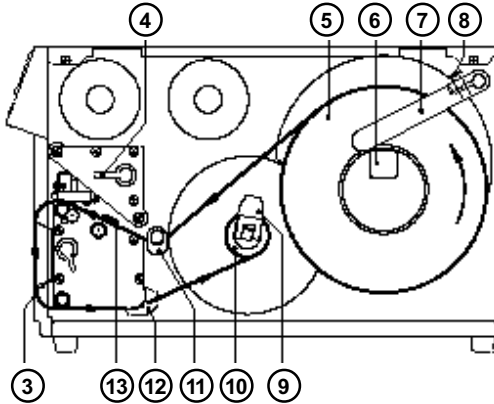

Fig. 13 I Inserting the labels
Fig. 13 b Mounting the printer adapter
Fig. 13 c Mounting the guide bar
Fig. 13 d Selecting the method of rewinding
Fig. 13 e Power supply module of the external rewinder
Fig. 13 f Rewinding directly onto the rewind axle
1. Attach the rewinder to the **Apollo** by positioning the metal posts on the bottom of the rewinder (5) into the holes of the adapter plate (4).
2. Feed the label strip over the guide bar and under the roller onto the rewinder axle (6) as shown in Figure 13 f.
3. Considering the required method of rewinding, secure the label strip appropriately to the rewinder axle (6) by sliding the clamp (7) over the label strip with the clamp set in the groove. (the broken line shows the path of inside rolled labels)
**Fig. 13 g Rewinding onto 3 in (75 mm) cardboard cores
1. Use a cardboard roll (5) which is about .04 in (1 mm) wider than the label strip.
2. Attach the rewinder to the **Apollo** by positioning the metal posts on the bottom of the rewinder (4) into the holes of the adapter plate (3).
3. Mount the first axle adapter (6) onto the rewinder axle (2) and slide it up to the disc (1). Tighten knurled screw (7).
4. Mount the second adapter onto the rewinder axle (2). Slide it towards the first adapter until the clearance between the edge of the adapter and the disc (1) is a little less than the width of the cardboard roll (5). Tighten knurled screw (7).
5. Slide the cardboard roll (5) over the two adapters (6) until it is touching the disc (1).
6. Feed the label strip over the guide bar and under the roller as shown in Figure 13 g up to the cardboard roll (5).
7. Using adhesive tape or a label, affix the end of the label strip to the cardboard roll (5). (the broken line shows the path of inside rolled labels)
8. Slide flange onto the rewind axle (2) until it stops at the cardboard. Tighten knurled screw.
Fig. 13 h Mechanical mounting of the cutter
Fig. 13 i Electrical connection of the cutter
Fig. 13 k Mounting the rewind guide plate
5. Unroll a length of stock from the media roll and feed along as shown in Figure 13 I.
Fig. 13 m Mounting of the present sensor
Fig. 13 n Inserting the labels for peel-off
1. Lift the printhead by turning the lever (7) clockwise until it stops.
2. Loosen the knurled screw (11) and swing media retainer (10) upwards.
3. Place the media roll (8) onto the media hub (9). Swing the media retainer (10) downwards and inwards until it rests against the side of the roll. Tighten the knurled screw (11).
5. Unroll a length of media stock and feed it through the **Apollo** as shown in Figure 13 n. It is particularly important to ensure that the media strip slides properly between the adjustable fittings of the photocell assembly (16).
6. Feed the media strip between the print roller and the thermal printhead, and then over the dispense edge (18) up to the internal rewriter (13).
7. Turn the locking lever (12) of the internal rewriter towards the axle to release the expanding axle. Slide the media strip underneath the rewriter clamps up to the rewriter plate. Expand the axle by turning the lever (12) back to its original position. Rotate the rewriter counter-clockwise to tighten the media strip.
9. Lock the printhead by turning the lever (7) counter-clockwise until it stops.